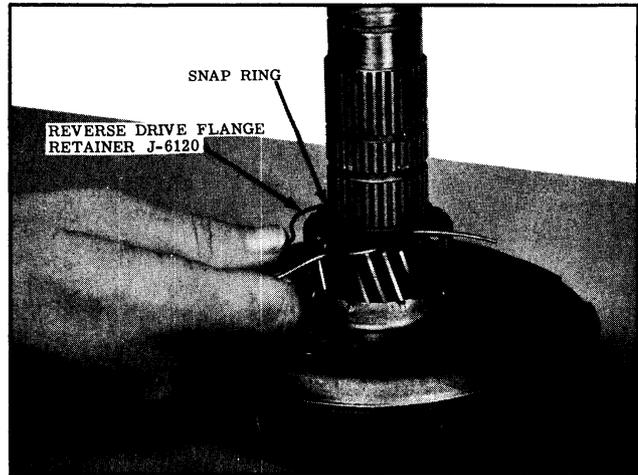

Fig. 3-70 Installing Retainer Tool
- Install reverse drive flange retainer J-6120 on output shaft between sun gear and snap ring. (See Fig. 3-70)